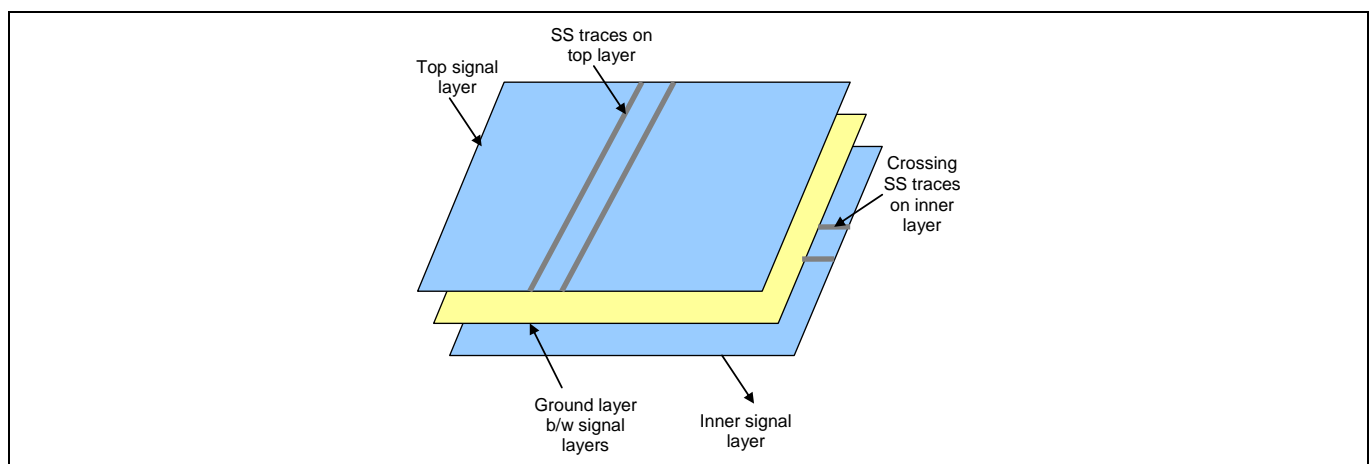

Figure 20 Ground insertion
- Whenever two pairs of USB traces cross each other in different layers, a ground layer should run all the way between the two USB signal layers. See Figure 20.